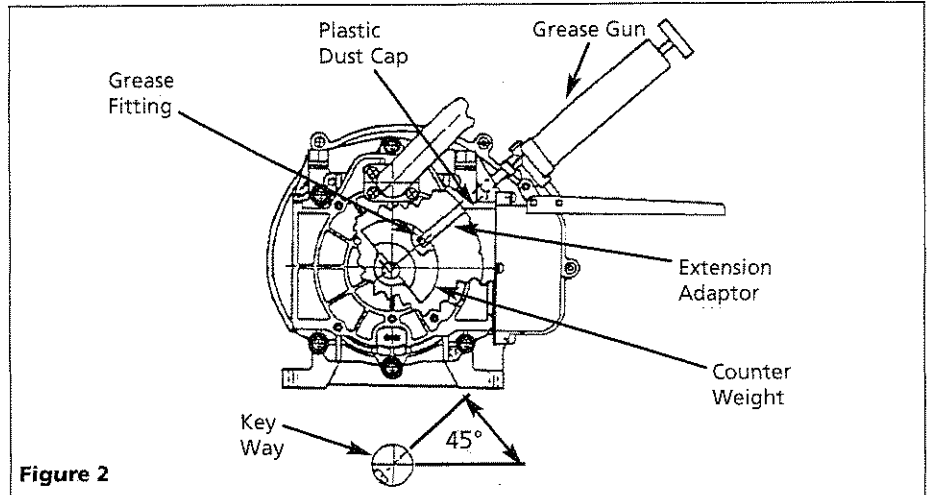

Figure 2
1. Remove the plastic dust cap. Use only one of two locations found on the air end (See Figure 2).
2. Rotate the compressor pulley until the grease fitting is visible through the dust cap hole (See Figure 2). This will allow regreasing of the main bearings.
3. Use a grease gun extension adaptor to engage the grease fitting and supply the proper volume of grease as indicated on the grease delivery chart (See Grease Delivery chart below & Figure 2).